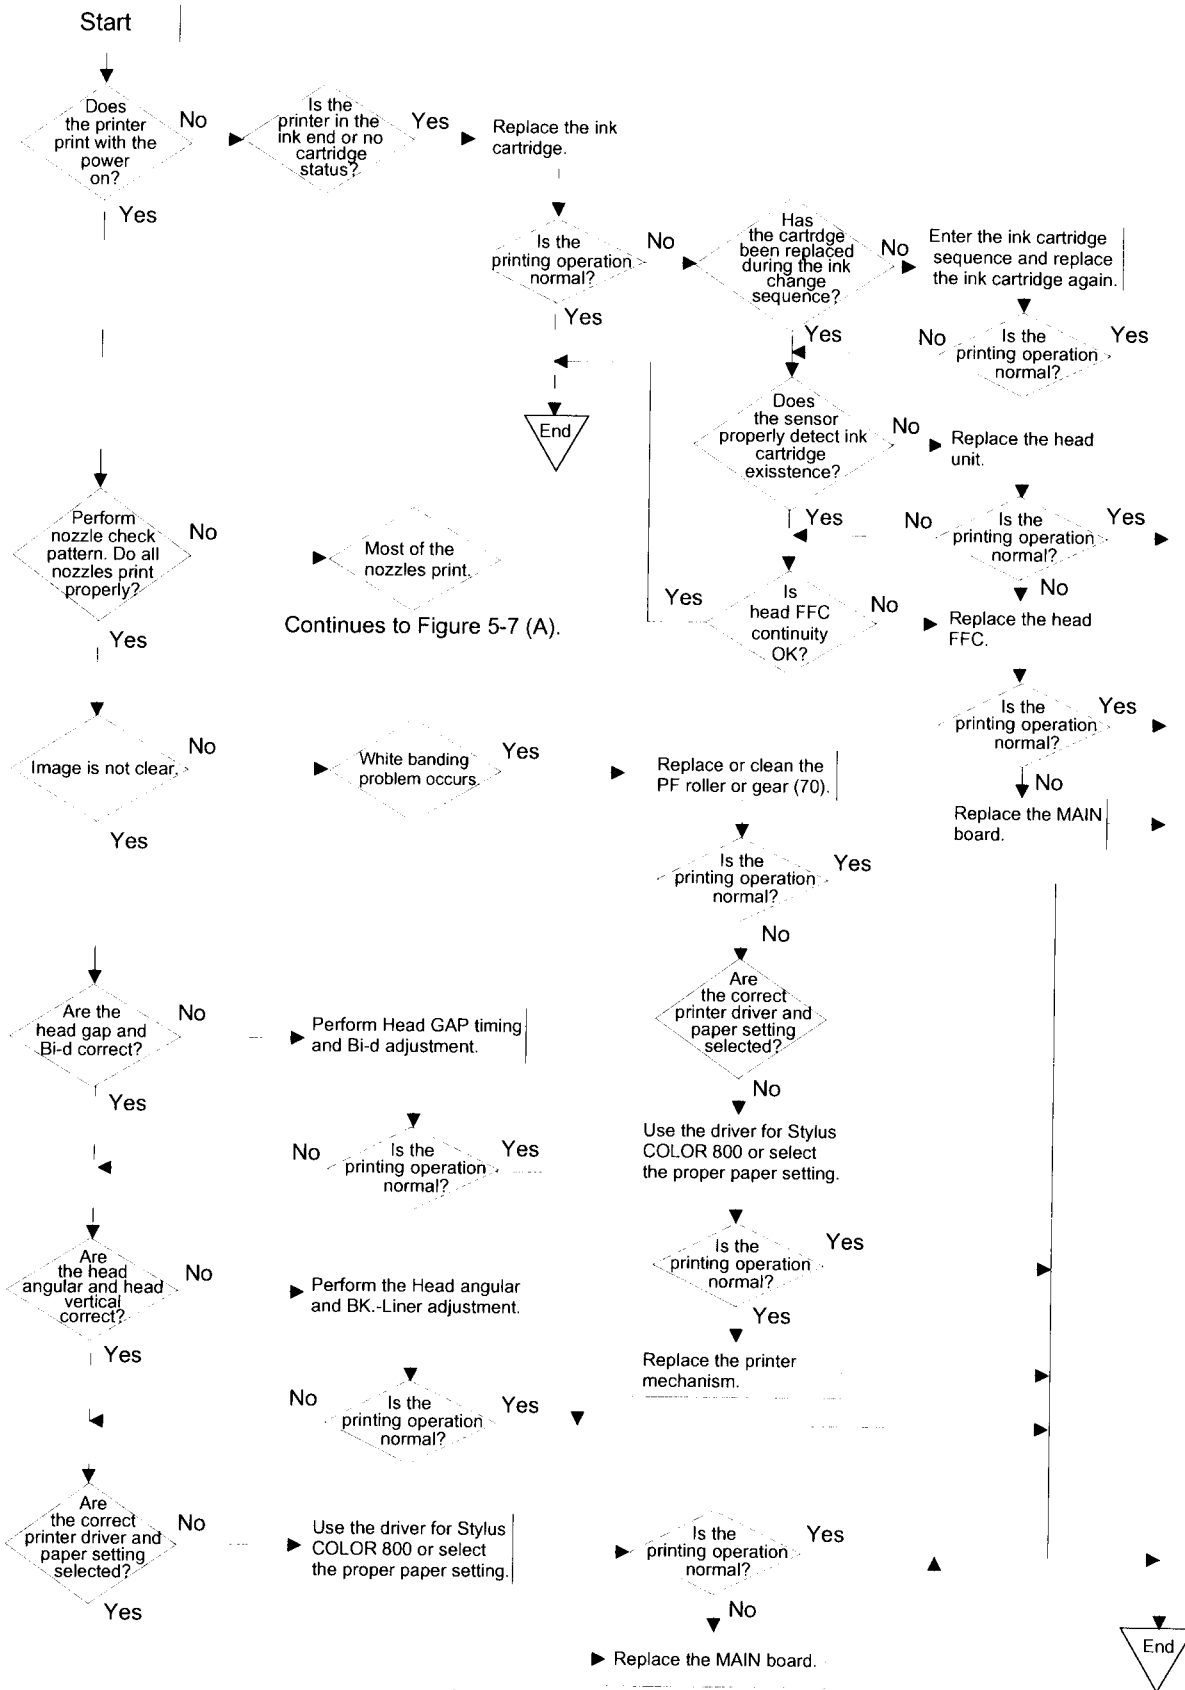

Figure 5-6. Flow Chart 4-1
(A) Continued form Figure 5-6.